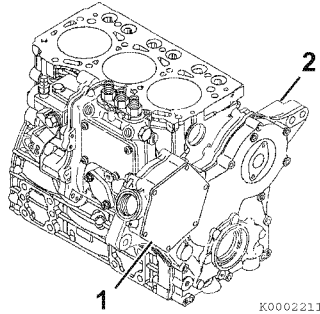

Figure 7-15
13. Remove the fuel injection pump drive gear access cover (**Figure 7-15, (1)**) from the gear case cover (**Figure 7-15, (2)**).